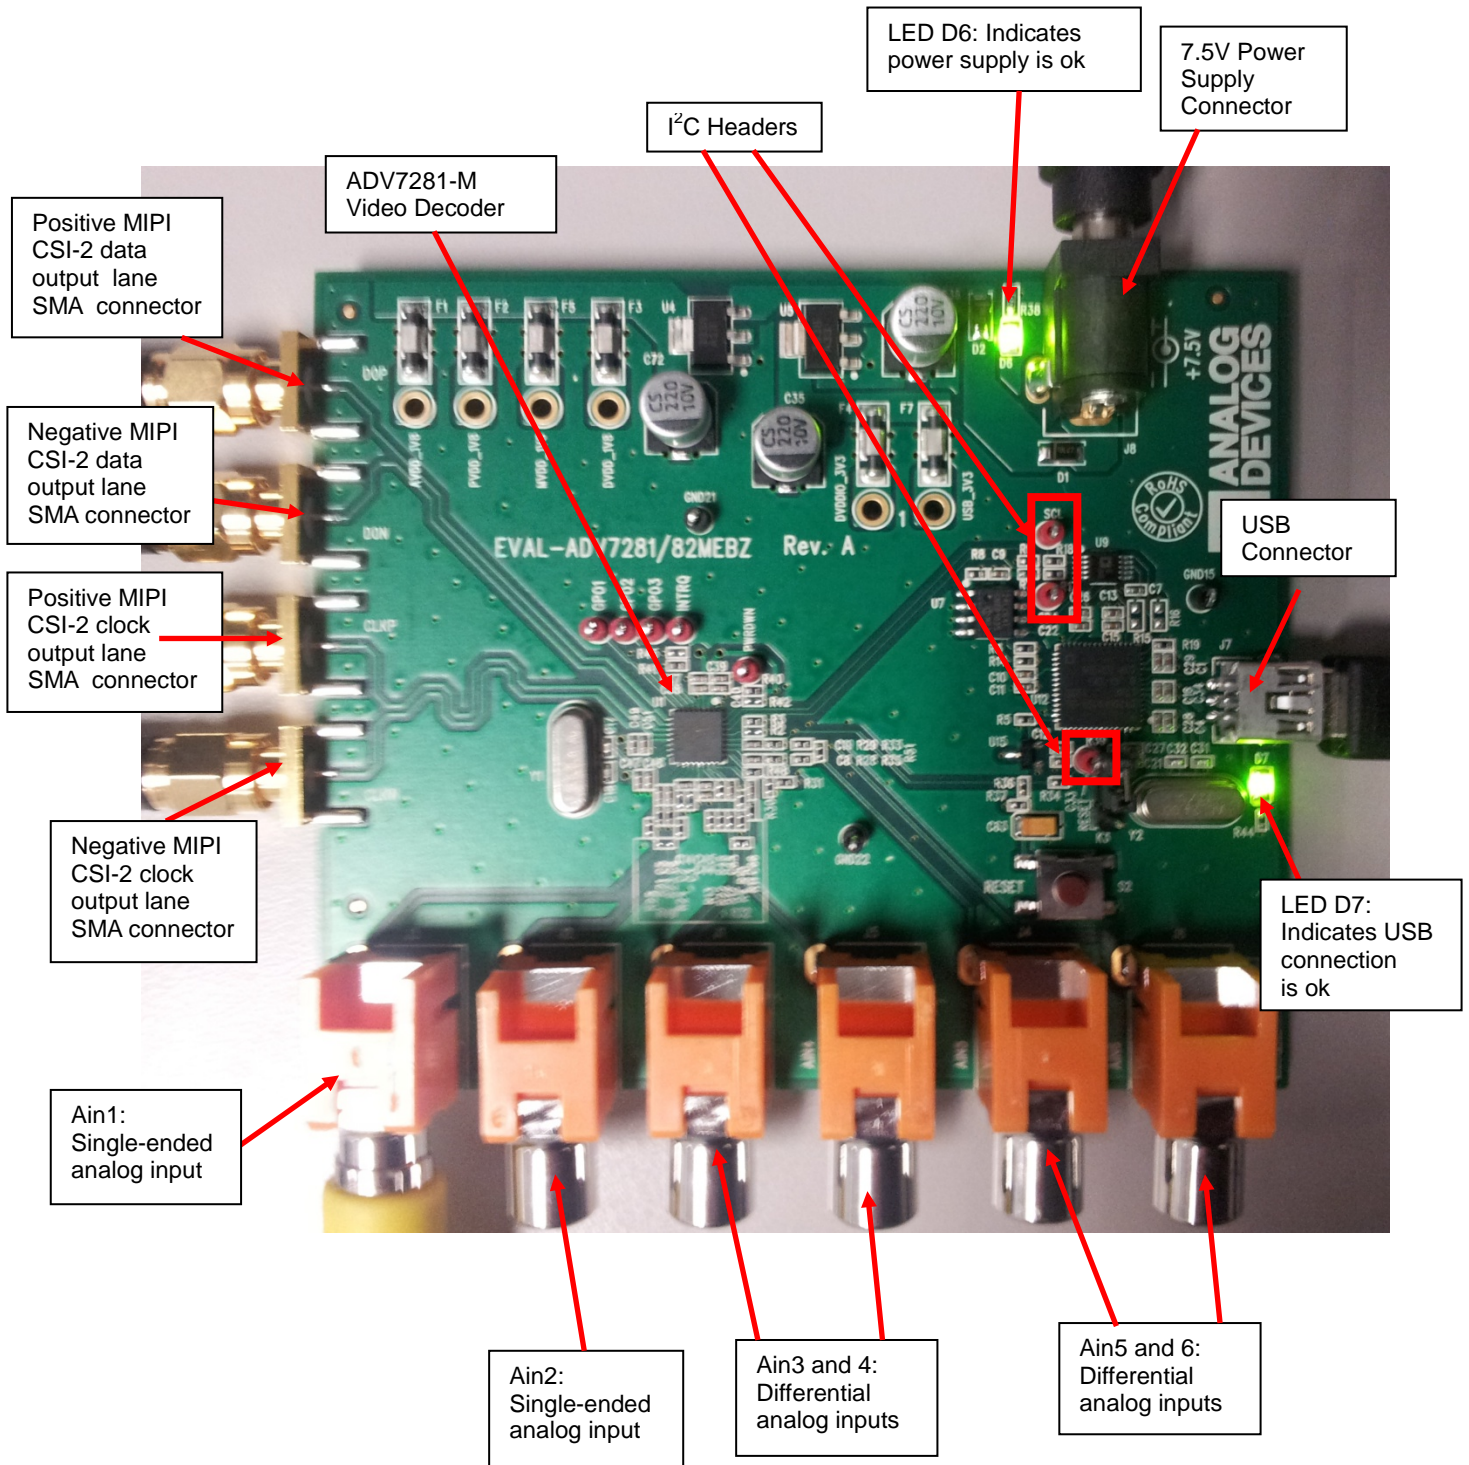

Figure 1. ADV7281-M Evaluation Board
2. Connect the 7.5 V supply cable to Jumper J8 on the ADV7281-M evaluation board. When this is done correctly, LED D6 turns on (refer to Figure 1).
4. Connect the other end of the USB cable to Jumper J7 of the ADV7281-M evaluation board. When this is done correctly, LED D7 turns on (refer to refer to Figure 1).
- The I²C lines to the ADV7281-M can be accessed via test points on the evaluation board. Refer to Figure 1.